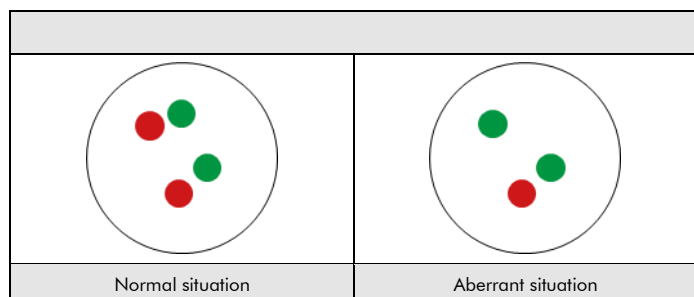

Fig. 3: Expected results in normal and aberrant nuclei
**Normal situation:** In interphases of normal cells or cells without deletion involving the 1p36 locus, two distinct dot-shaped red and two distinct dot-shaped green signals appear (see Fig. 3).
**Aberrant situation:** In a cell with deletion affecting the 1p36 locus, a reduced number of red signals will be observed. Deletions affecting only parts of the 1p36 locus might result in a normal signal pattern with red signals of reduced size (see Fig. 3).